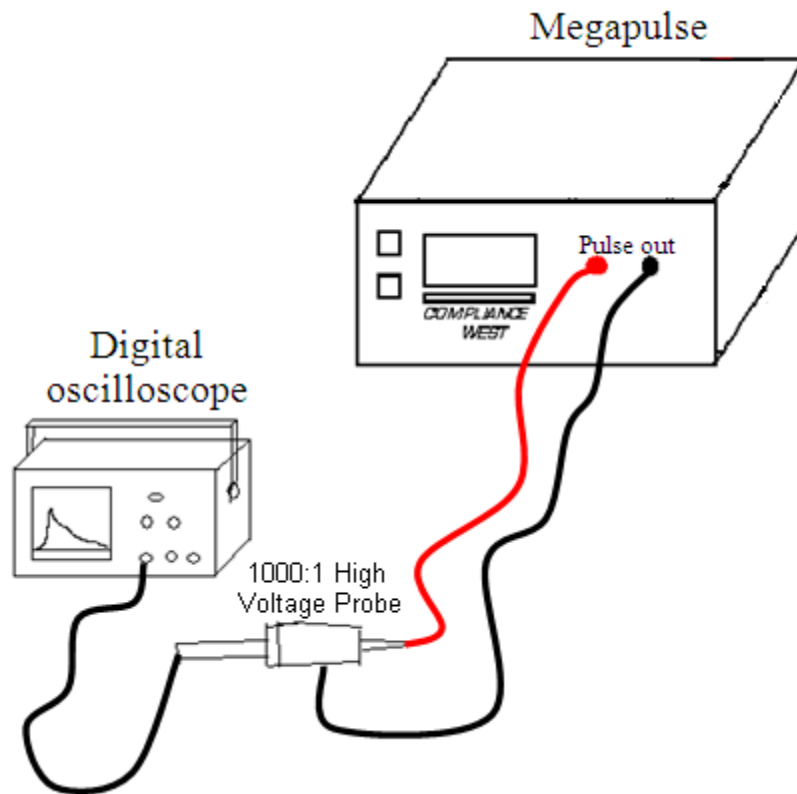

Figure 3. Waveform Measurement Setup
2. If the Resistor network is included, plug the red test lead to the **(C)** Output jack and the black test lead to the **EN 45502 (I)** jack on the front panel and install the front panel jumper. If not included connect an external resistor network to the **“A”** and **“B”** Output jacks.
3. Connect the ends of the test leads to an appropriate measuring instrument (typically an oscilloscope with a high-voltage probe). See Figure 3 as an example.
4. Connect the “A” and “B” Output jacks to an appropriate measuring instrument (typically an oscilloscope with a high-voltage probe). See Figure 3 as an example.